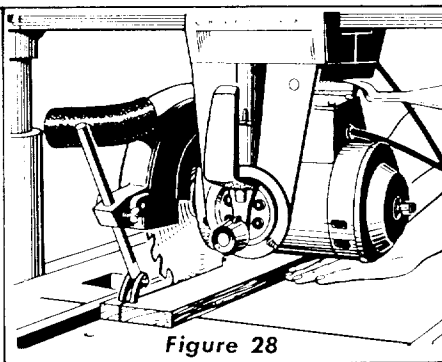

Figure 28
**IN-RIPPING**—In-rip refers to a position when the blade is between the motor and the fence and parallel to the fence. See Figure 28. To place the saw in this position, unlock the yoke, disengage the swivel latch pin and rotate the yoke 90° clockwise (viewing it from the carriage) until the swivel latch pin automatically indexes the yoke 90°. Relock the yoke. See "Adjustment of Pointers" to check accuracy of "In-Rip" scale reading. Position the motor on the radial arm until the pointer on the "In-Rip" scale indicates the desired width of the finished cut board. Tighten the carriage lock knob securely. Position the discharge elbow on the guard so that sawdust will be blown toward the rear of the saw. Turn the saw "On" and lower the radial arm until the saw blade cuts into the table top about  $1\frac{1}{32}$ ". Turn the saw "Off". Now adjust the saw guard and anti-kick pawl assembly as described in the paragraph "Ripping". The board to be ripped must be fed into the saw blade from the right side of the table, therefore, the normal position for the operator is also at the right side of the table. With the left hand safely clear of the blade and holding the board to be ripped down against the table and against the face of the fence as a guide, use the right hand to feed the board into the saw. The left hand should remain stationary, serving as a guide only. As the right hand approaches the left hand, hold a push stick with the right hand to complete the cut. Do not leave a long board unsupported so that the spring of the board causes it to shift on the table. A support like that described in "Cross-Cutting" can be used to support the board behind the blade; and if the board is very long, use another support in front of the saw. Ripped boards up to 8 $\frac{3}{8}$ " wide can be cut in the In-Rip position.